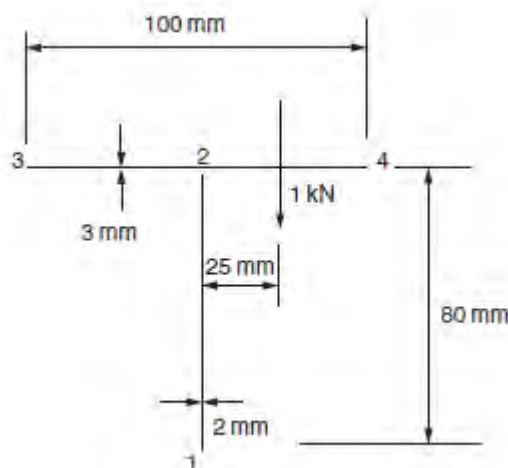

Figure 7:
5. Determine the maximum shear stress in the beam section shown in Figure 7 stating clearly the point at which it occurs. Determine also the rate of twist of the beam section if the shear modulus G is $25\,000\text{ N/mm}^2$. [16]